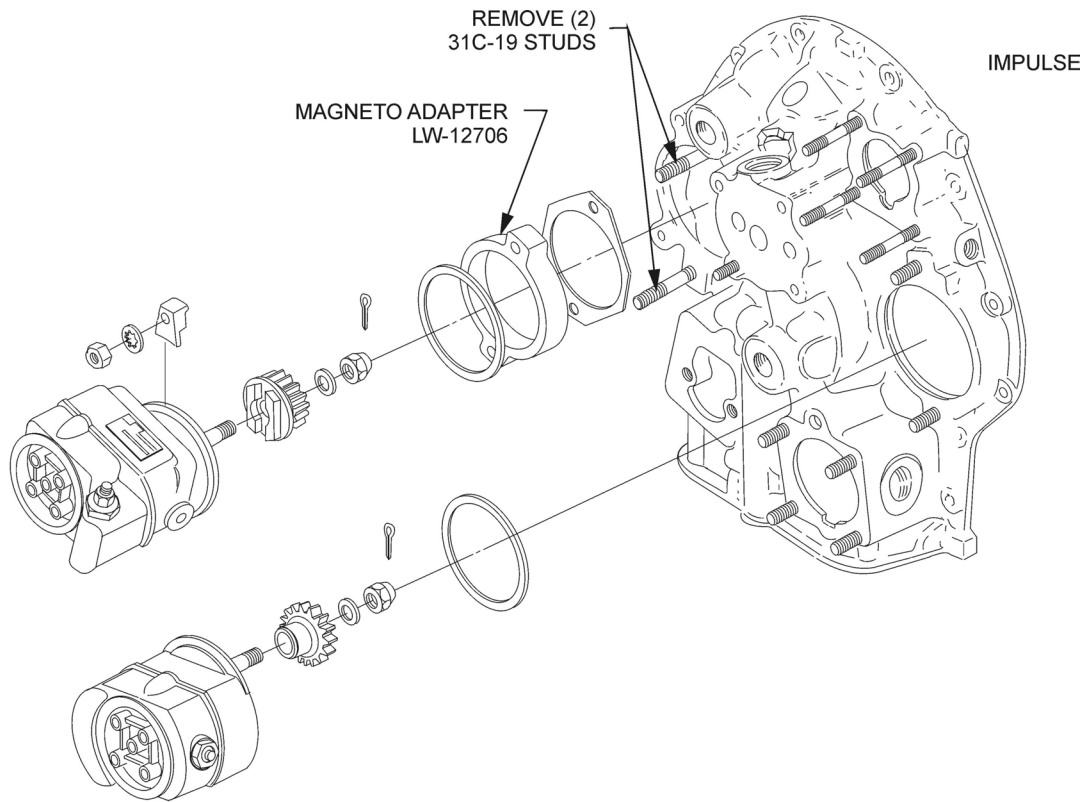

Figure 1 (Removal)
1. To replace the left impulse coupling magneto with a retard breaker magneto, first remove nuts, washers, and clamps securing the magneto to the accessory housing. Remove the magneto, adapter and gaskets. Refer to Figure 1.